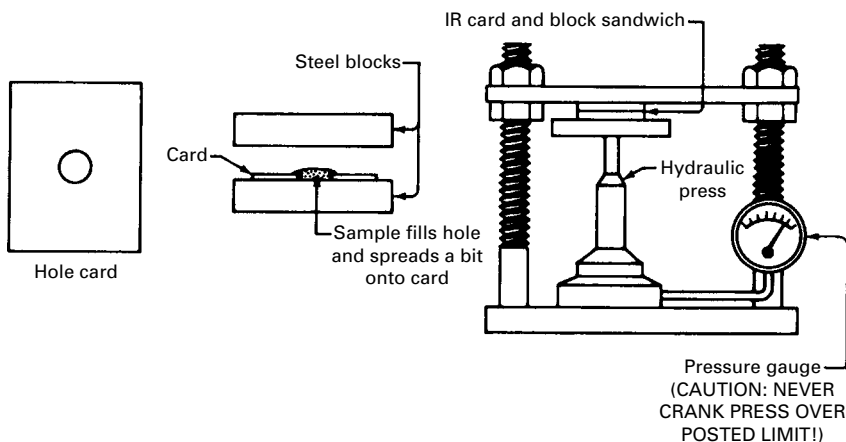
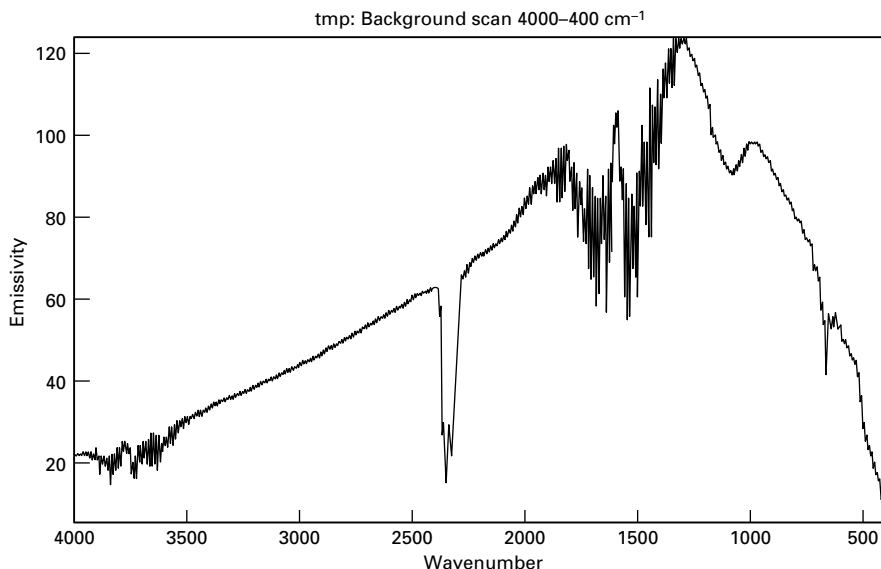

FIGURE 32.15 KBr disks by hydraulic press.
FIGURE 32.25 FTIR background spectrum. Note H₂O and CO₂ bands.
6. Cover the card, which now has your sample on it, with the second metal block and place the sandwich in the press (Fig. 32.15).
1. ***FTIR is a single-beam instrument.*** So you must collect a background spectrum (Fig. 32.25) before you do your sample. The computer program will subtract the background from the background and sample and produce the usual IR spectrum. What's in a background spectrum? Everything that's not the sample. For a KBr disk spectrum, the empty press (Fig. 32.14) or an empty card (Fig. 32.15) is included in the background spectrum. For a salt plate spectrum (Fig. 32.11), clean salt plates in the holder are the background. And for a solution-cell spectrum, the cell with pure solvent is the background. Why? For many cells and holder combinations, the aperture is smaller, or the salt plates absorb a bit, or the solvent absorbs a lot, and these must be compensated for.